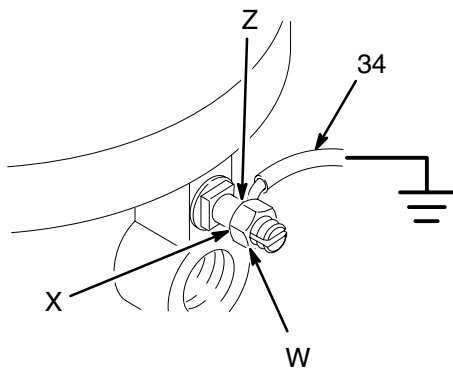

Fig. 1
1. *Pump*: use the ground wire and clamp (supplied). See Fig. 1. Loosen the grounding lug locknut (W) and washer (X). Insert one end of the ground wire (34) into the slot in lug (Z) and tighten the locknut securely. Connect the other end of the wire to a true earth ground.